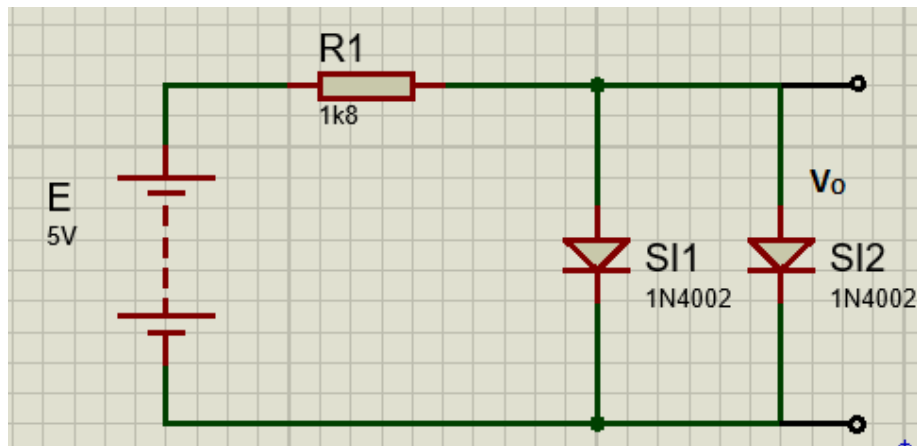

Figure 1.3
1. Construct the circuit of *Fig. 1.3* with the supply (E) is set at 5 V. Record the measured value of the resistor.